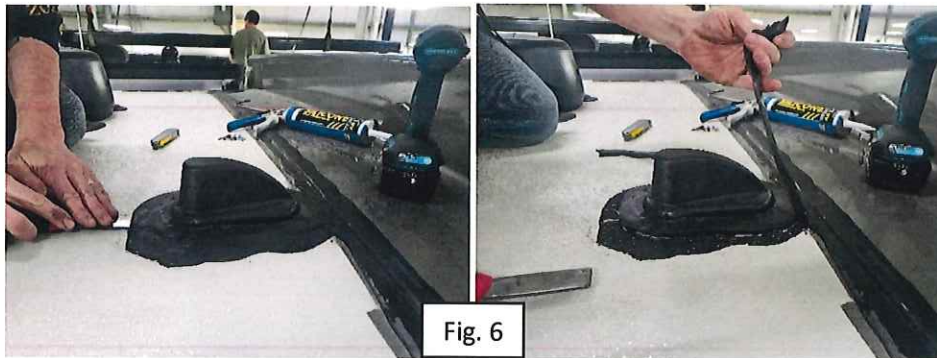

Fig. 6
3. Use a putty knife or trim tool to free the self-level from the roof of the coach. Then remove the self-level. (Figure 6)